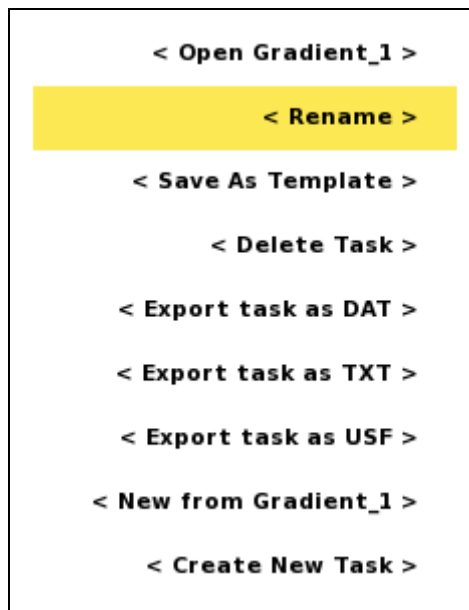

Figure 24. Task Option menu with the Rename item highlighted
- Move the highlight to <Rename> (Figure 24)